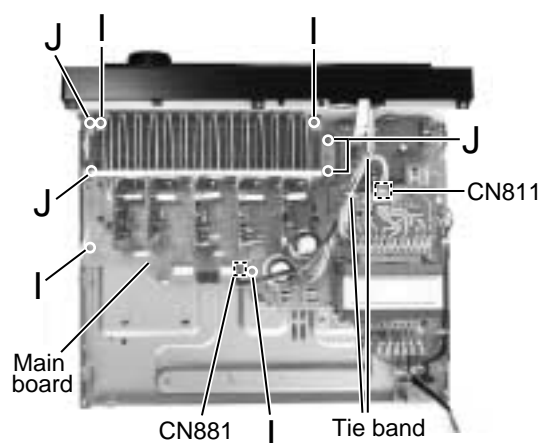

Fig.14
■ Removing the main board (See Fig.14)